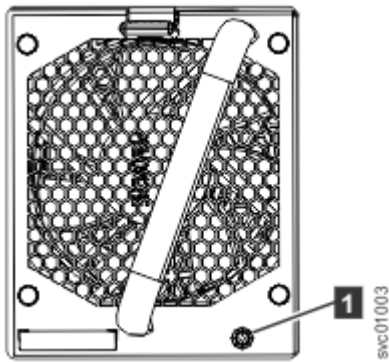

Figure 120. Fan module LED
1. Identify the fan module to be replaced. When lit, the amber LED on the front of the fan module (**1** in Figure 120 on page 102) identifies a fault.